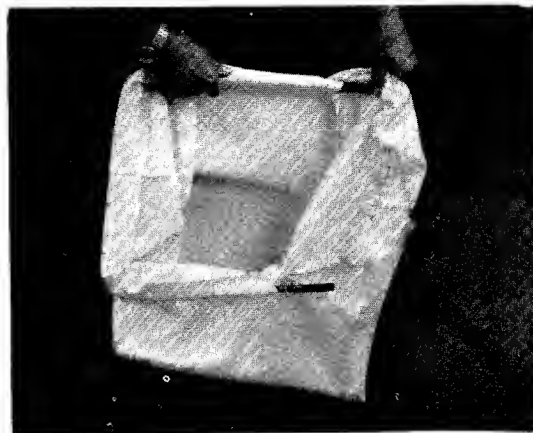

FIGURE 5
1. Thread the rear frame through the bag. See figure 5.